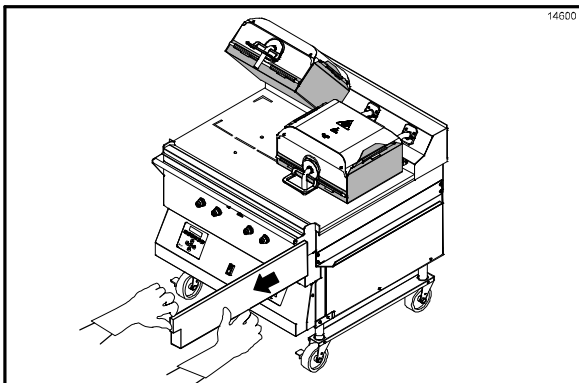

Figure 63
36. Remove and empty the grease pans. (See Figure 63.)